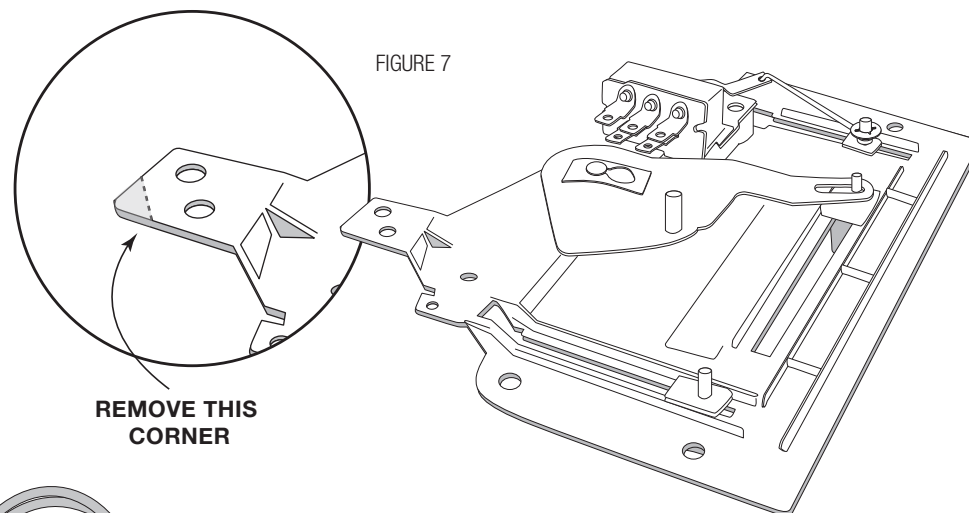

FIGURE 7
1) In order for the integrators to align properly, you will need to remove a small amount of the metal from the mounting platform. You can use a file or dremel to remove some of the corner. Use the integrator assembly to test for fitment as you remove material (see figure 7).